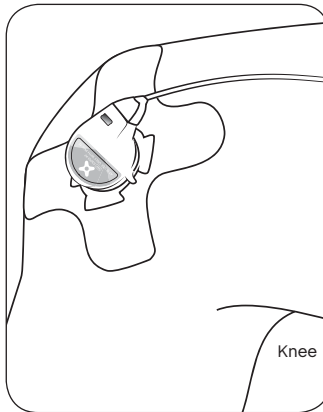

figure 10B: Adhere Bandage to Site
B. Turn the bandage over and adhere the bandage to the desired treatment location (Figure 10B).